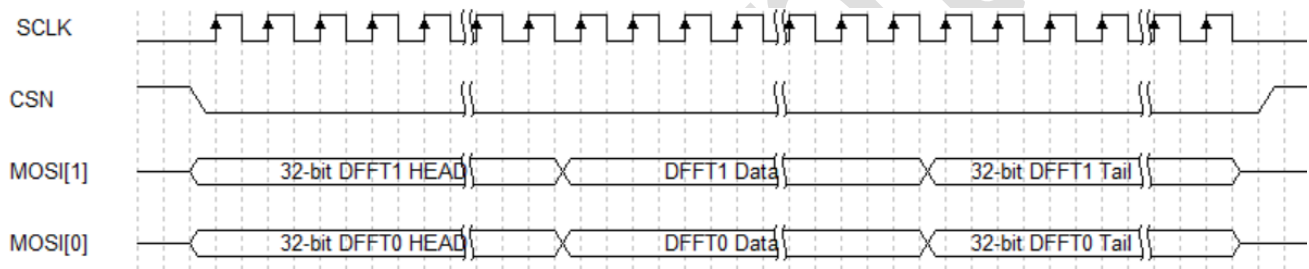

Figure 4-9 Doppler FFT Data Timing
Figure 4-9 and Table 4-13 show the timing and data format. Pin27 (MOSI[0]) represents RX's data. The head and tail occupy one double word (DW). The transfer is under MSB first sequence and the Doppler FFT data type is signed integer.